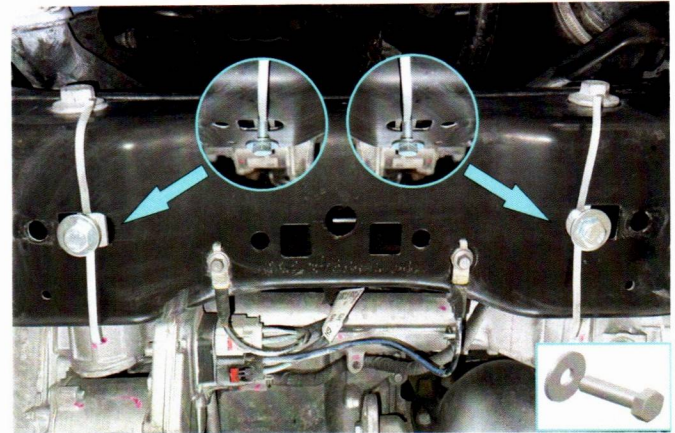

Fig. 2
2. Screw bolts M10x35 with penny washers 10 (item C, D) on 2-3 turns as shown in fig.2.